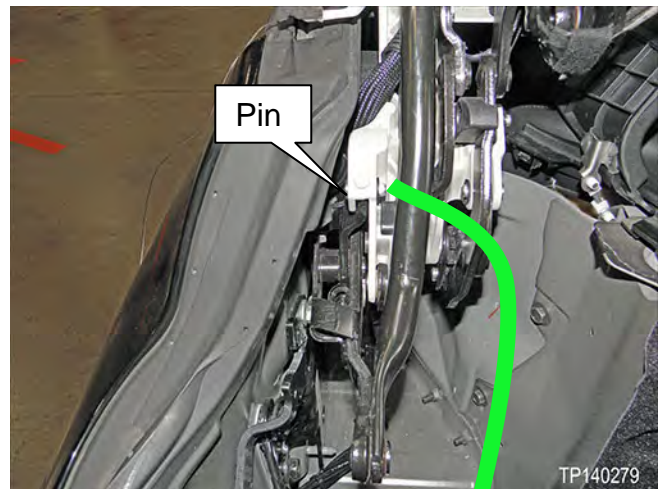

Figure 42
25. Remove the pin shown in Figure 42.